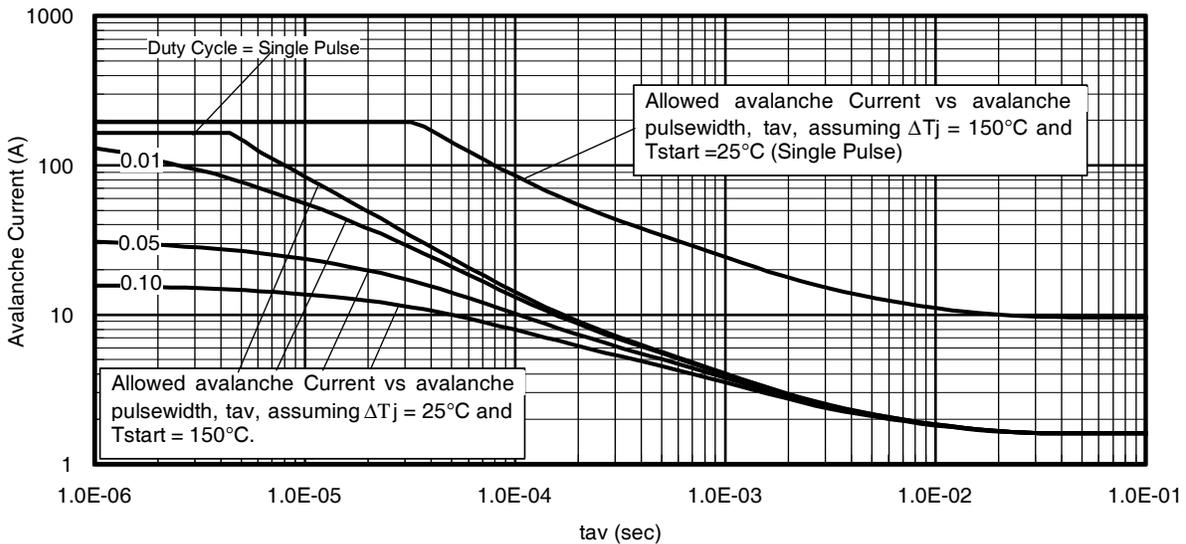

Fig 14. Typical Avalanche Current vs. Pulsewidth
| I_{AR} | Avalanche Current ② | See Fig. 14, 15, 22a, 22b | A |
- ④ $I_{SD} \leq 165A, di/dt \leq 430A/\mu s, V_{DD} \leq V_{(BR)DSS}, T_J \leq 175^\circ\text{C}$.
- ⑤ Pulse width $\leq 400\mu s$; duty cycle $\leq 2\%$.
- ⑥ $C_{oss\ eff. (TR)}$ is a fixed capacitance that gives the same charging time as C_{oss} while V_{DS} is rising from 0 to 80% V_{DSS} .
- ⑦ $C_{oss\ eff. (ER)}$ is a fixed capacitance that gives the same energy as C_{oss} while V_{DS} is rising from 0 to 80% V_{DSS} .
- ⑧ When mounted on 1" square PCB (FR-4 or G-10 Material). For recommended footprint and soldering techniques refer to application note # AN-994.
- ⑨ R_{θ} is measured at T_J approximately 90°C .
- ⑩ Limited by T_{Jmax} , see Fig. 14, 15, 22a, 22b for typical repetitive avalanche performance.
- ⑪ $R_{\theta JC}$ value shown is at time zero.
Notes on Repetitive Avalanche Curves, Figures 14, 15:
7. ΔT = Allowable rise in junction temperature, not to exceed T_{jmax} (assumed as 25°C in Figure 14, 15).